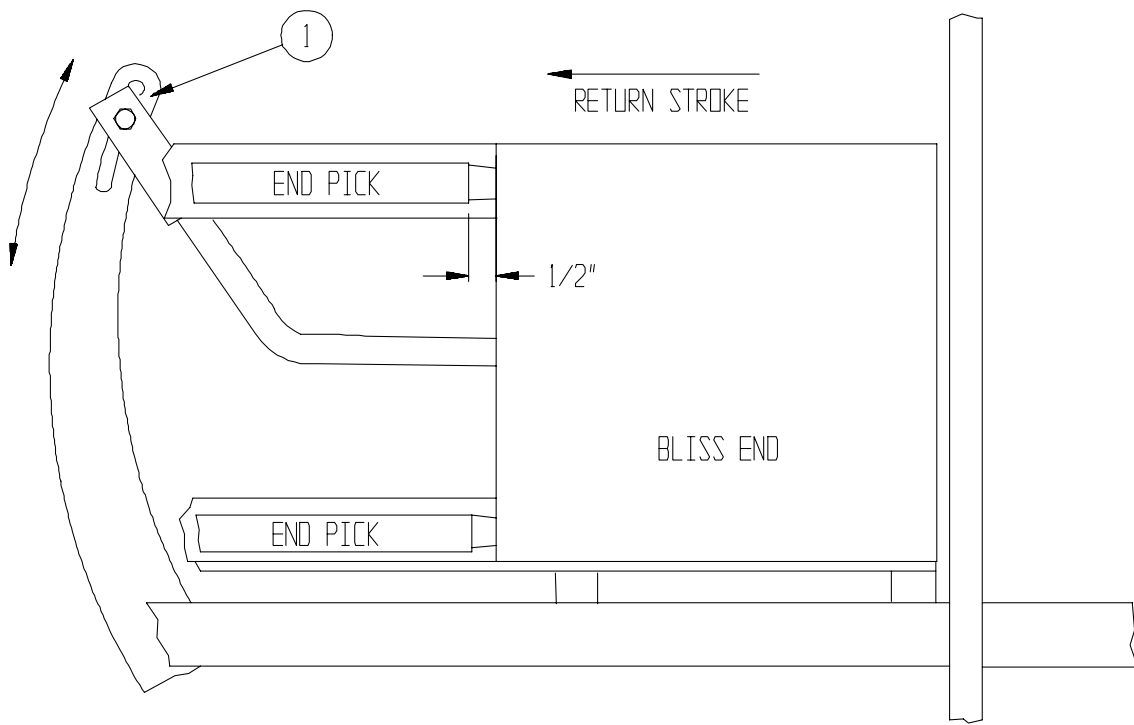

Figure 5-9B: Adjust Mandrel Stroke
**Figure 5-9B** - With the Mandrel at the end of the return stroke, shown, adjust the Con Rod on the Mandrel Feed Post (0042200) so that the End Picks clear the bliss end in the hopper by no more than 1/2 inch. (See Page 5-14)